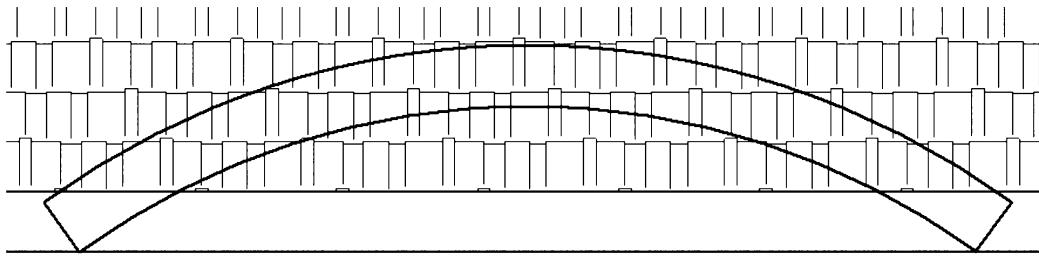

FIGURE 10-5.16 South elevation; two arcs and two short lines define roof profile
41. Zoom in and sketch a short line on each end of the arc as shown in Figure 10-5.16; be sure to use your *Endpoint* snaps (type SE).